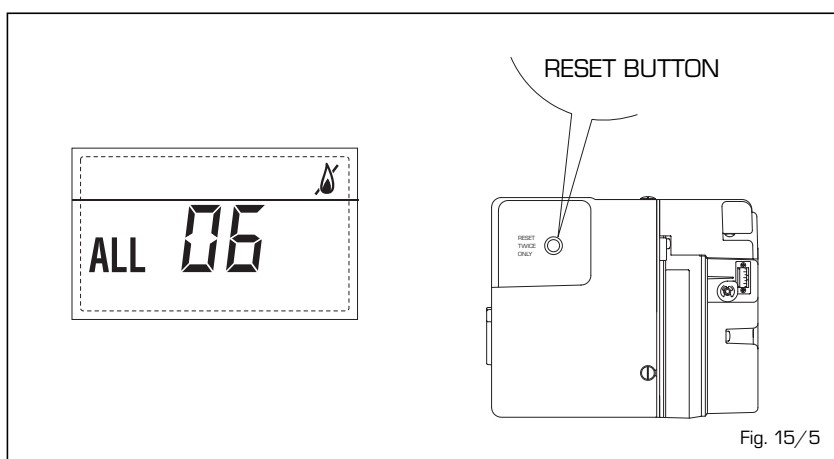

Fig. 15/5
- **SAFETY THERMOSTAT ANOMALY ALARM 07 (fig. 15/6)**